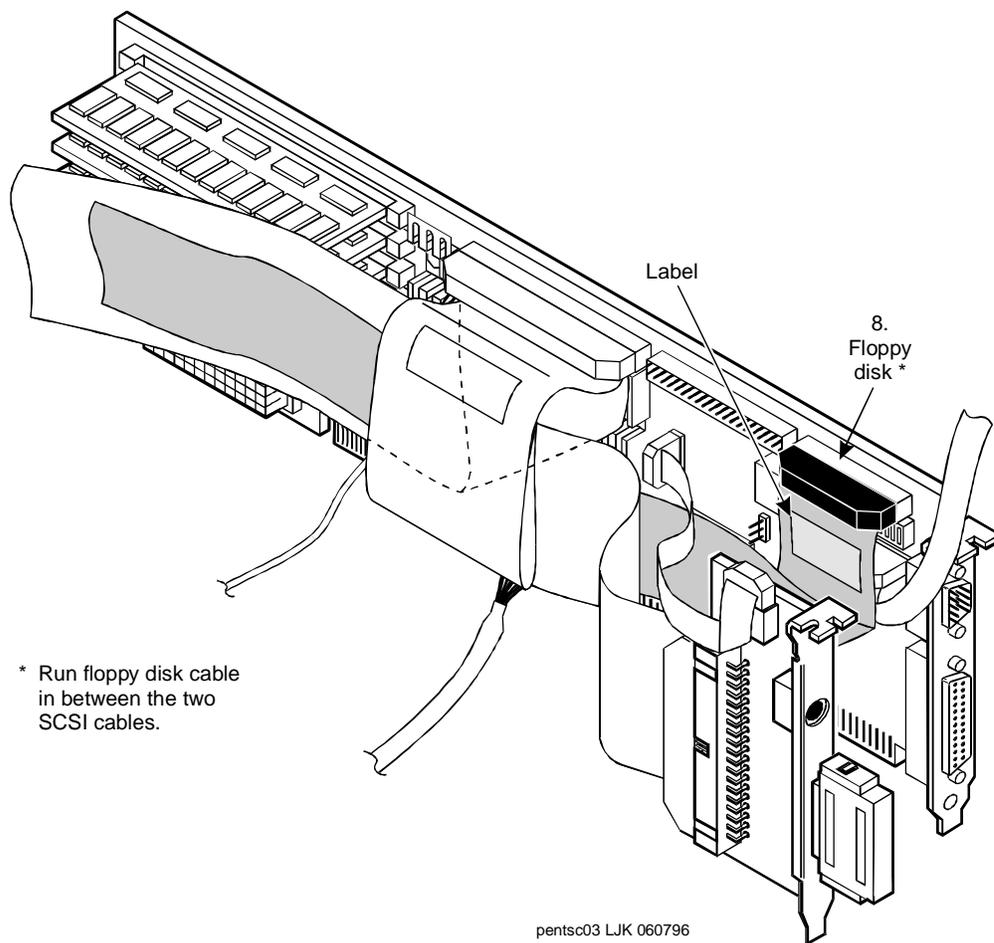

Figure 5-22. Attaching Cables to the P575/CPU Circuit Card - Part 3
16. Attach the floppy disk cable to the floppy cable pins on the P575/CPU circuit card (Figure 5-22).
The floppy cable has a label which contains the following message (Figure 5-22):
17. Dress this cable through the SCSI cable and beneath the external SCSI connector circuit card (Figure 5-22).